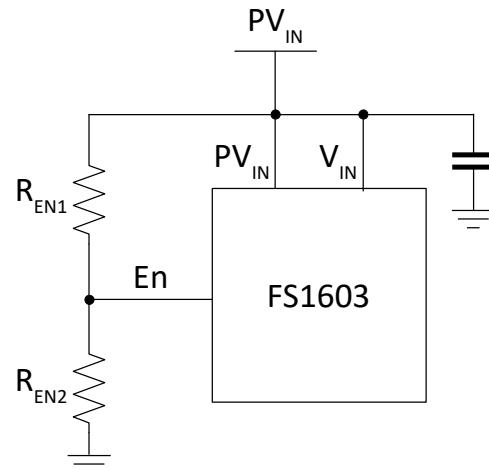
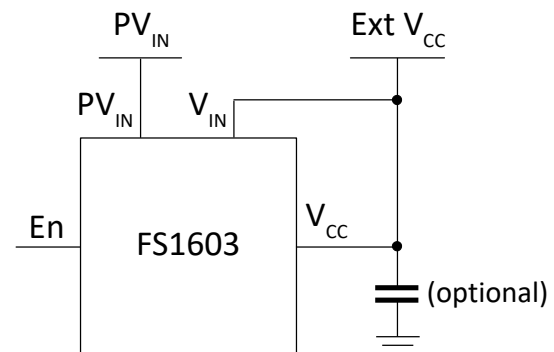

Figure 6 Single supply configuration: internal LDO regulator, adjustable PV_{IN_UVLO}
Figure 7 Using an external bias voltage
The FS1603 has an integrated Low Drop-Out (LDO) regulator, providing the DC bias voltage for the internal circuitry. The typical LDO regulator output voltage is 5.2V. For internally biased single-rail operation, the V_{IN} pin should be connected to the PV_{IN} pin (Figure 6). If an external bias voltage is used, the V_{IN} pin should be connected to the V_{CC} pin to bypass the internal LDO regulator (Figure 7).
- It can be used to implement a precise input voltage UVLO. The input of the En pin is derived from the PV_{IN} voltage by a set of resistive dividers, R_{EN1} and R_{EN2} (Figure 6). Users can program the UVLO threshold voltage by selecting different ratios. This is a useful feature that stops the FS1603 regulating when PV_{IN} is lower than the desired voltage.